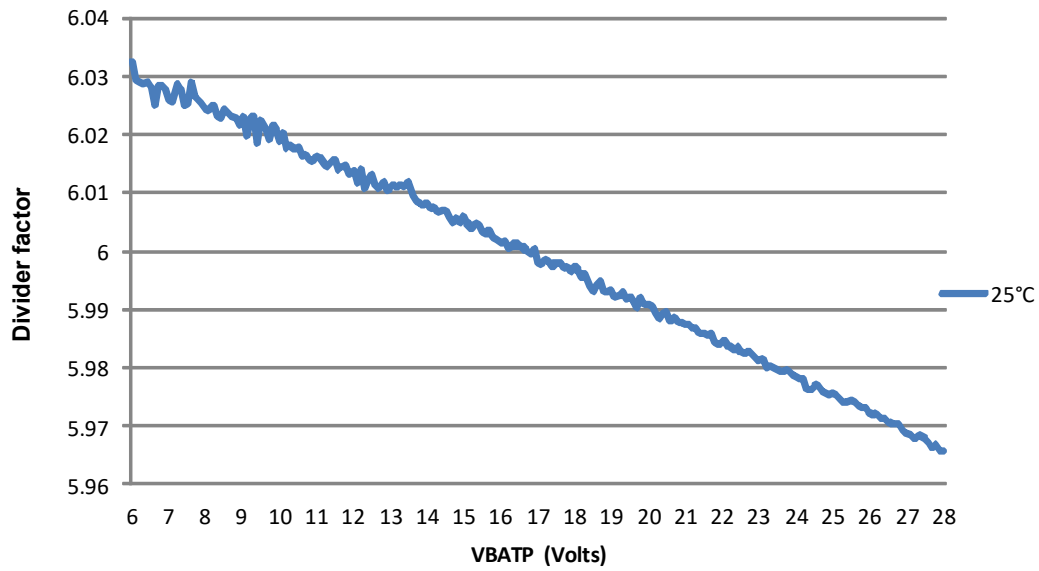

Figure 4. Divide by 6 coefficient accuracy
23. Calibration of divider ratio can be done at  $V_{BAT} = 12\text{ V}$ ,  $25\text{ }^\circ\text{C}$  to achieve a higher accuracy. See Figure 4 for AMUX offset linearity waveform through the operating voltage range.